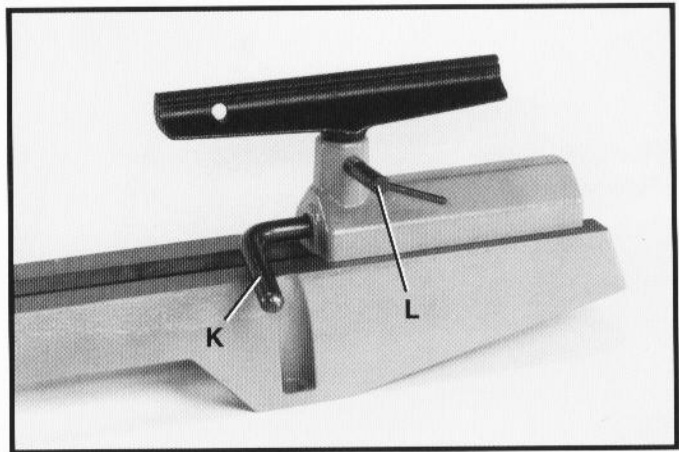

Fig. 12
5. Lift up tool rest base locking lever (K) Fig. 12 and loosen tool rest locking lever (L).